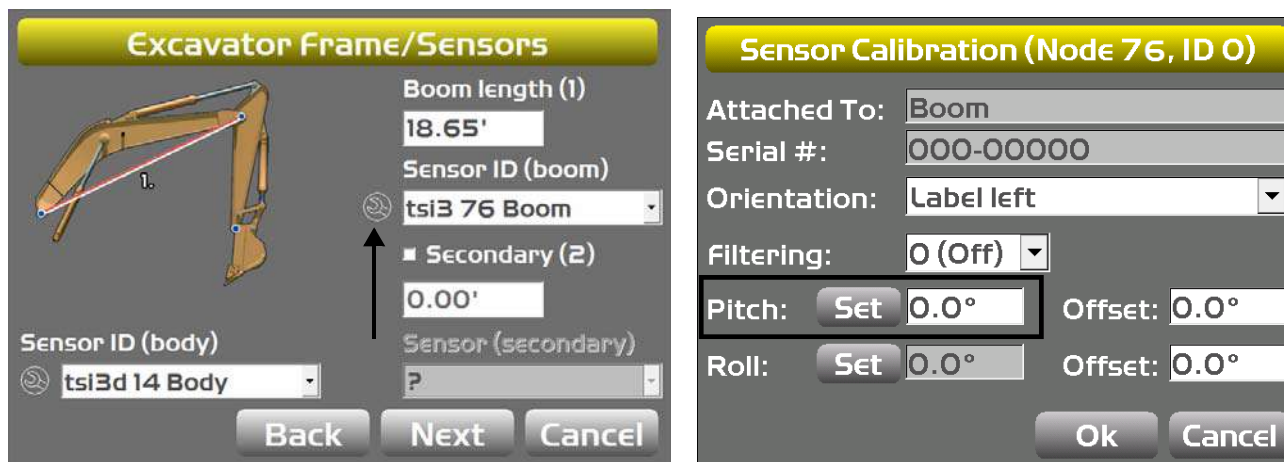

Figure 64: Set Pitch Value to Zero
1. Tap the **Wrench**  icon that corresponds to the boom sensor (Figure 64).
7. Tap the **Wrench**  icon that corresponds to the boom sensor (Figure 64).
8. Tap **Set** next to **Pitch**, enter the value as zero, and tap **Set** again (Figure 64).